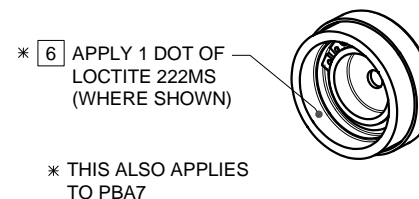

FIGURE 1
- 6) APPLY ONE (1) DOT OF LOCTITE 222MS, ON THE FEMALE THREADS OF BUTTON ASSEMBLY LEAVING THE FIRST AND LAST THREADS FREE. (FIGURE 1). **CAUTION: EXCESS LOCTITE CAN CAUSE THREADS TO LOCK VERY TIGHTLY, MAKING REPAIRS DIFFICULT.**